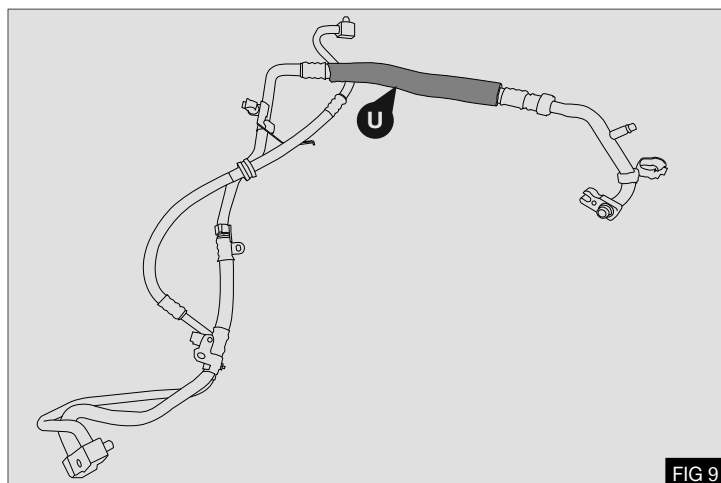

FIG 9
17. Remove and discard the air-conditioning hose set (U) – retain fasteners and seals - Fig 9